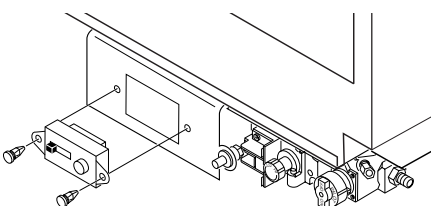

Figure 40 - Installing Remote Receiver
4. Place receiver into valve bracket and align holes (see Figure 40).